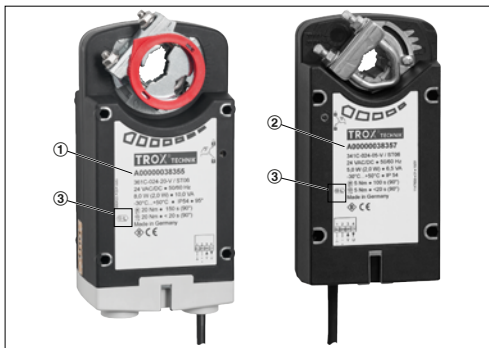
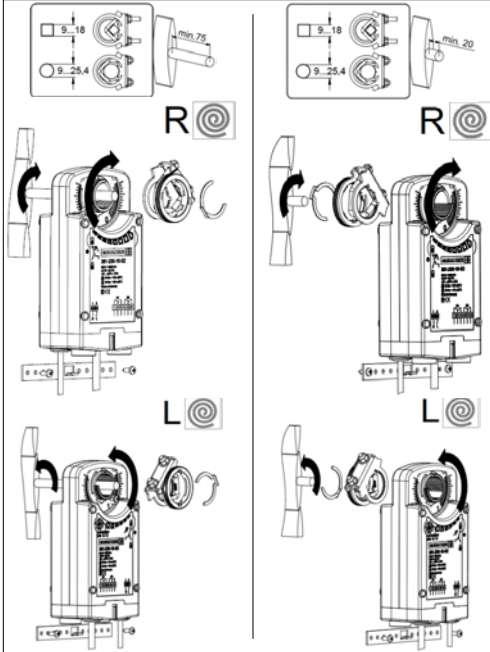

Fig. 2: New actuators
Fig. 3: Fitting the clamping device
Which actuator for which VAV terminal unit? (See Fig. 2):
- ▶ Install the new actuator the same way the defective actuator was installed; be sure to use the correct orientation (installation side R or L, Fig. 2/3). Depending on the shaft length and on the installation side, you may have to fit the clamping device on the opposite side (Fig. 3). Tighten the clamp with 10 Nm to the shaft.